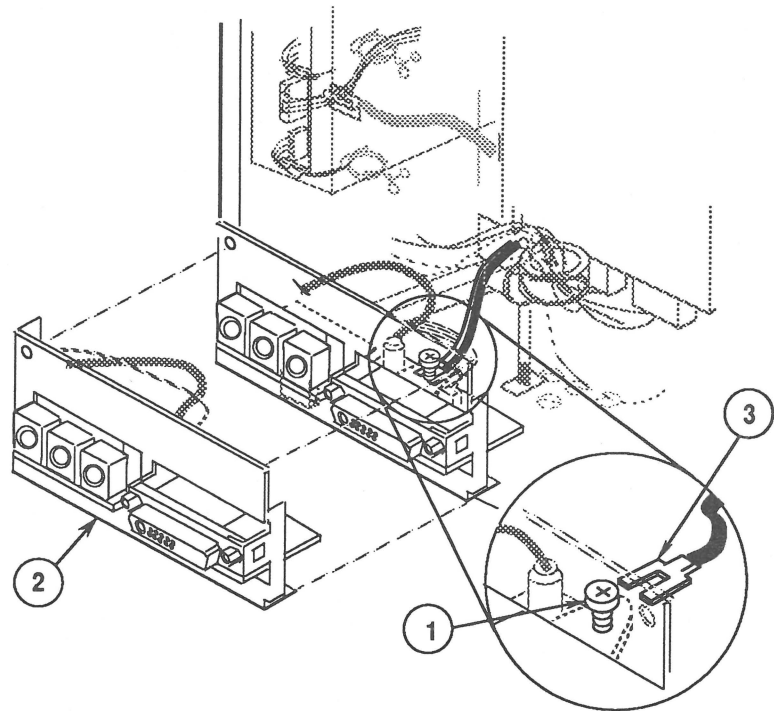

FIGURE 13
7. Loosen the screw (Figure 13, #1) on the signal input assembly mounting bracket (Figure 13, #2), and remove the black ground cable (Figure 13, #3). Lift the signal input assembly off the chassis.
1. Replace the signal input assembly on the chassis. Then replace the black ground cable (Figure 13, #3) on the signal input assembly mounting bracket, and tighten the screw (Figure 13, #1).